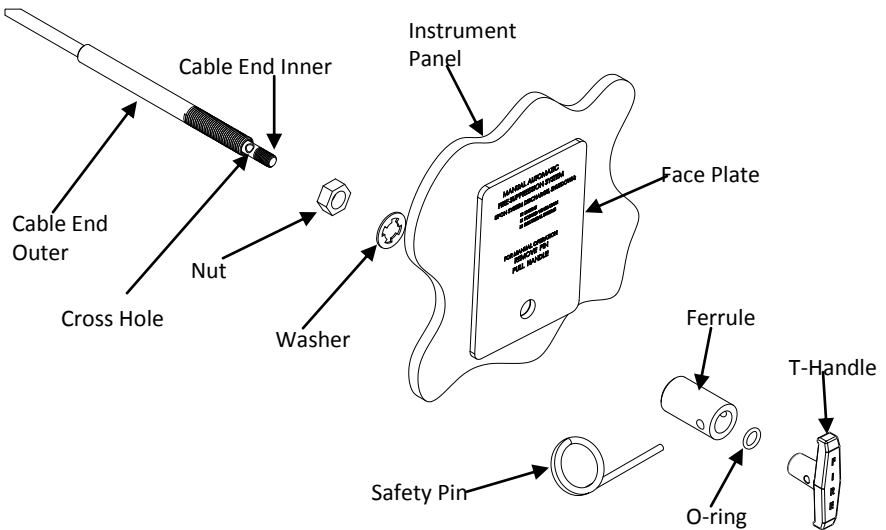

Figure 4
- a. Using the manual discharge faceplate (Figure 3, Figure 4) as a template, mark and drill a 13/32inch (10.4 mm) hole.
- d. With cable end – inner (threaded shaft) out to its fullest travel, place rubber O-ring over threads on shaft. Hold the cable end-inner from rotating using the safety pin in cross hole (see Figure 4 – Page 11) or by using needle nose pliers. Install the T- Handle on the cable end – inner, screwing it on until it bottoms out. Do not over tighten.